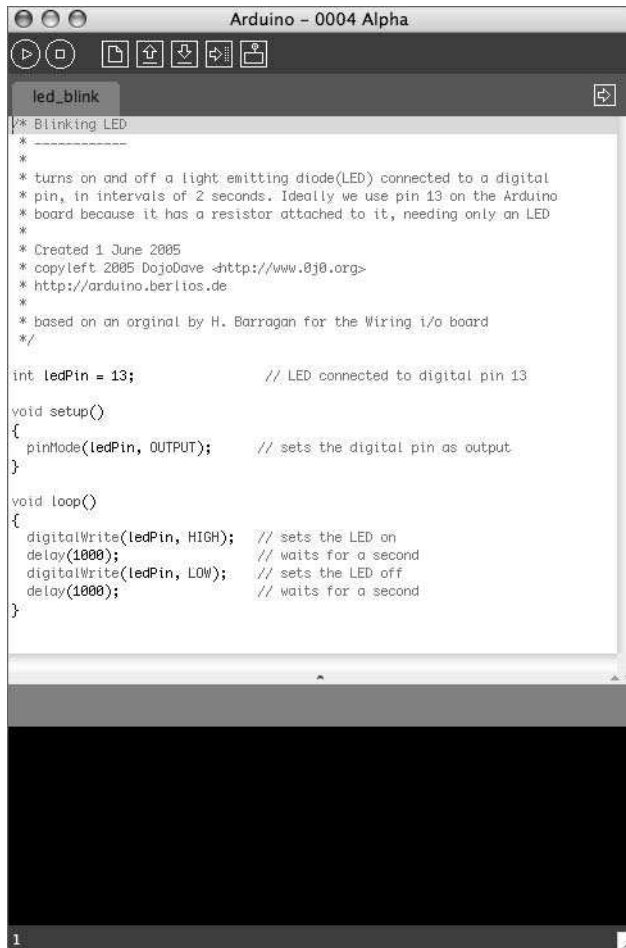

FIGURE 13-16: The Arduino programming environment, same for all OSes
Figure 13-16 shows the Arduino programming environment. If you think it looks a lot like the Processing environment introduced in Chapter 7, you're right. Arduino is based on Processing and adopts many of its idioms. Like Processing, Arduino runs on Mac OS X, Windows, and Linux. And like Processing, programs written with Arduino all have a similar code structure, consisting of two functions:
5. Load up or write an LED blink program as shown in Figure 13-16 and compile it by clicking the Verify/Compile button. It should say Success.